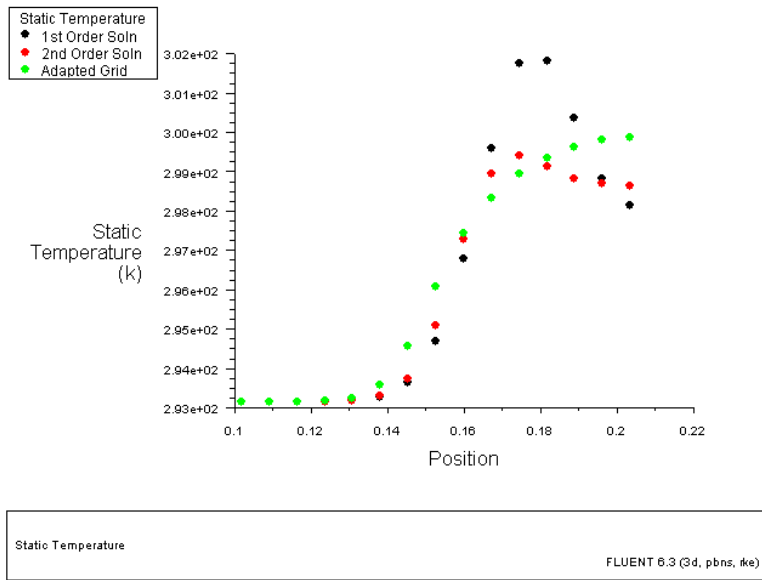

Figure 1.22: Outlet Temperature Profiles for the Three Solutions
7. Display the outlet temperature profiles for each of the three solutions on a single plot (Figure 1.22).
Figure 1.22 shows the three temperature profiles at the centerline of the outlet. It is apparent by comparing both the shape of the profiles and the predicted outer wall temperature that the solution is highly dependent on the mesh and solution options. Specifically, further mesh adaption should be used in order to obtain a solution that is independent of the mesh.